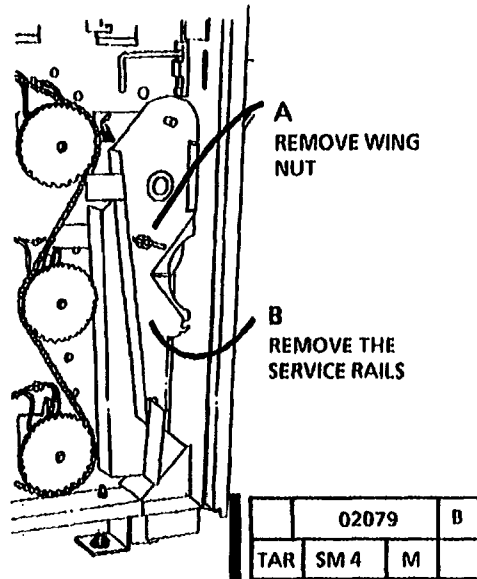

Figure 5. Remove the Service Rails
9. (Figure 5): Remove the service rails from the storage area.